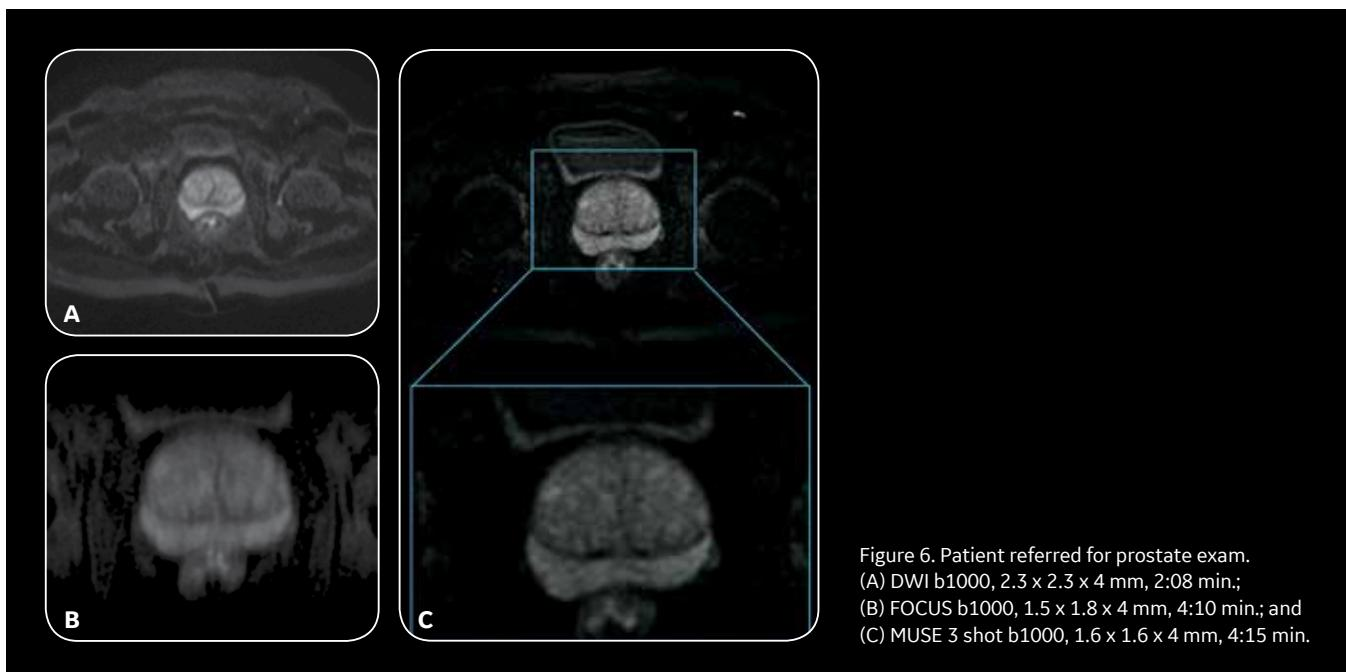

Figure 6. Patient referred for prostate exam.
Figure 6. Neuro imaging with the 48-channel Head Coil in a three-day-old patient. (A-B) MUSE DWI with ADC Map, $1.2 \times 1 \times 3$ mm, 3:09 min.; and (C) Axial ASL CBF Map.
After investigating several sequences, Naka and his colleagues found PROGRES provided the best DWI image with the least distortion. Susceptibility artifacts around the eye and inner ear were decreased with no major impact on scan time when using PROGRES. As a result, PROGRES is being frequently used for neuro DWI at Kawasaki Saiwai Hospital (Figure 6).
resolution,” Professor Hori explains. “However, MUSE can provide high-quality imaging in both larger and smaller FOV for the prostate,” (Figure 6). In MRCP imaging, HyperSense is shortening scan times by 30 percent at Osaka University. He has also increased matrix size, from 512×320 to 512×416 . With this protocol, he can more clearly see the small intrahepatic bile duct with less motion due to the shortened scan time (Figure 7).